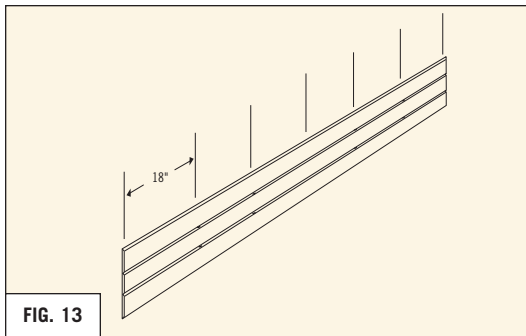

FIG. 13
- Pre-drill holes in the **two grooves** of the fascia cladding, spaced 18" apart. If the cladding is used under the bullnose lip, the holes may be spaced as wide as 36" apart. (REFER TO FIG. 13)